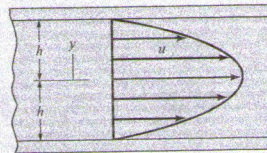

FIGURE E1.5a
**GIVEN** The velocity distribution for the flow of a Newtonian fluid between two wide, parallel plates (see Fig. E1.5a) is given by the equation